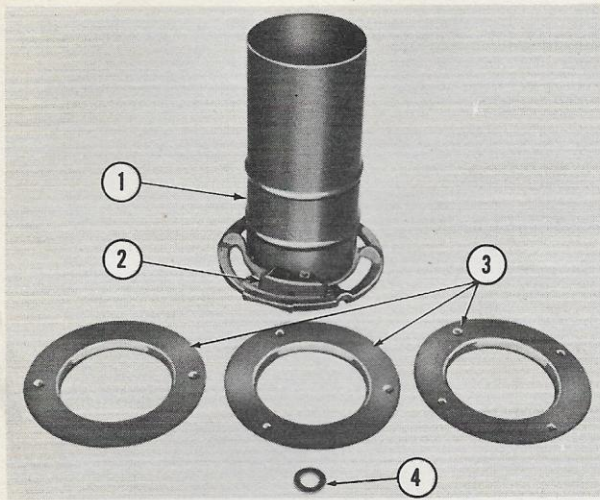
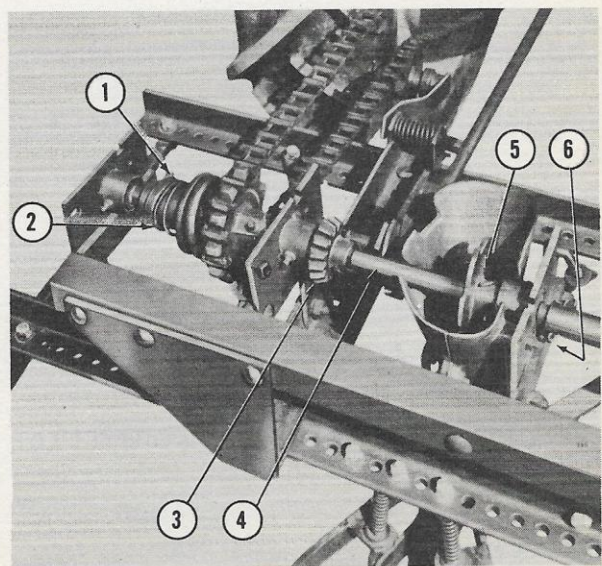
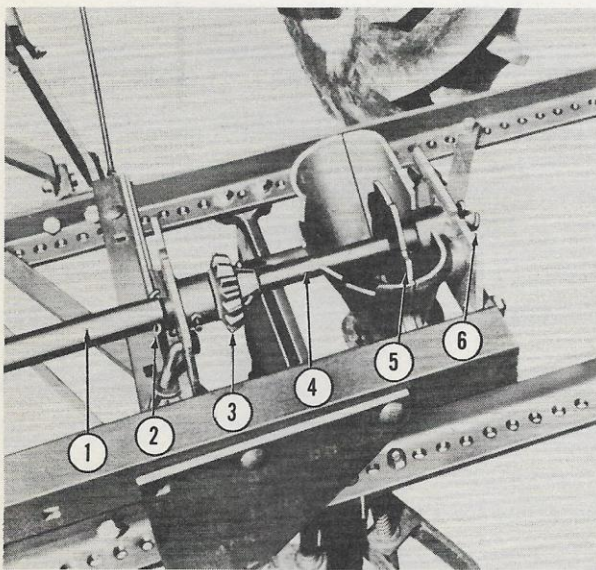
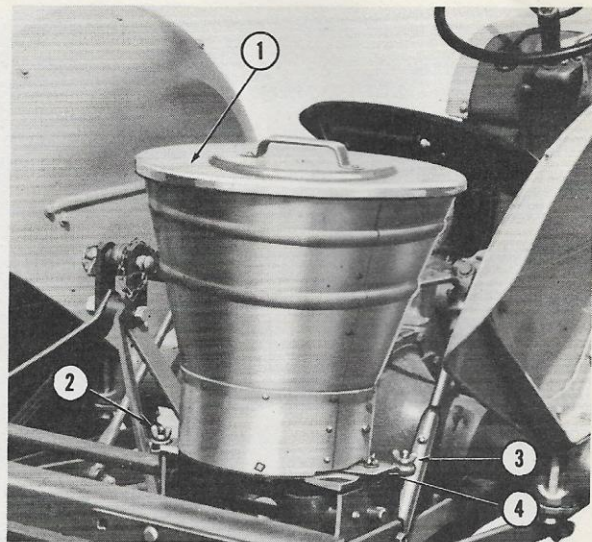

Figure 15
Figure 16
Figure 17
Figure 18
NOTE 2: *The Duplex Hopper Attachment shown in Figure 15 consists of one pair of hoppers, three pairs of bean plates and two washers to replace the picker wheels. This attachment is used for planting corn and beans at the same time.*
NOTE 3: *It is necessary to remove the picker wheels (5), Figure 16 and 17, from the planter drive shafts before attaching the seed hoppers and duplex hopper.*
- a. Remove the long pipe (1), Figure 17, from between the left and right hopper drive shafts by removing the cotter pins (6), Figure 16, and (2), Figure 17.
- b. Compress the spring (2), Figure 16, on
- c. Remove the cotter pins from the pinion gear (3) and from the picker wheel (5), Figure 16, and slide the shaft (4) to the left.
- d. Remove the picker wheel (5), Figure 16, and replace with the spacer washer (4), Figure 15, provided with the attachment.
- e. Slide the shaft (4), Figure 16, into former position, secure the pinion gear with the cotter pin and replace the pin in the sliding half of the clutch.
- f. Remove the cotter pin (6), Figure 17, from the right end of the shaft, and the pins holding the right picker wheel (5) and pinion gear (3).
g. Slide the shaft (4), Figure 17, to the left, remove the picker wheel (5) and replace with the spacer washer provided.
h. Slide the shaft (4), Figure 17, into former position, replace the cotter pin (6) on the right end of the shaft (4) and secure the pinion gear (3) with the cotter pin.
i. Replace the long pipe (1), Figure 17, and secure with the cotter pins.
k. Place the desired bean plates (3), Figure 15, on the seed hopper bottoms with the driving lugs down.
l. Position the Duplex Hoppers (1), Figure 15, on the seed hopper bottoms with the knocker assembly (2) over the slide gauge (4), Figure 18.
16. Position the seed hoppers (1), Figure 18 over the right and left seed hopper drive assemblies and secure with the wing nuts (2) and (3).
1. Remove the right hand seed hopper from the planter and the cotter pins from each end of the long pipe (1), Figure 17.